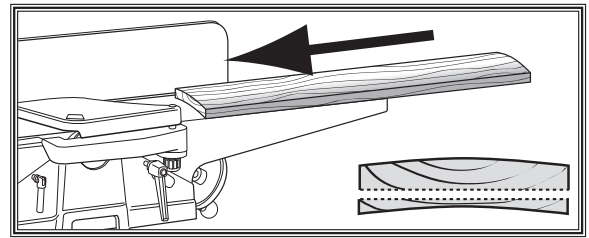

Figure 26. Surface plane on the jointer.
1. **Surface Plane on the Jointer:** The concave face of the workpiece is surface planed flat with the jointer (see **Figure 26**).